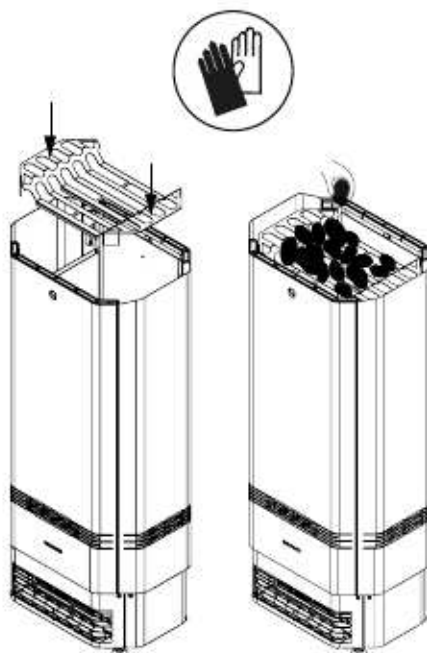

Figure 11
- Place back the stone basket top grille and add 1-2 layers of stones so that air can pass through the top grille and stones freely (Figure 11 & 12).